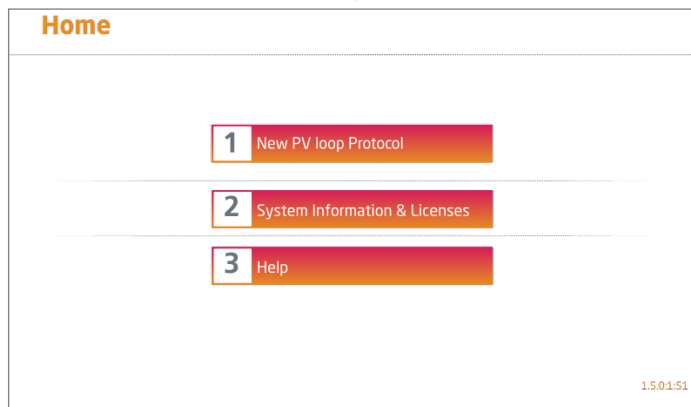

Figure 14: MPVS Duo Home - Catheter Connected
2. Home - Catheter Connected - Figure 14
From the main menu, as shown in Figure 14 on page 9, **press 1** to start a New PV Loop Protocol. This will initiate the Millar PV data collection workflow, which is a guided process with helpful tips and reminders to streamline data collection. Experienced users can quickly and easily navigate through the workflow using the [</>] navigation keys on each screen.